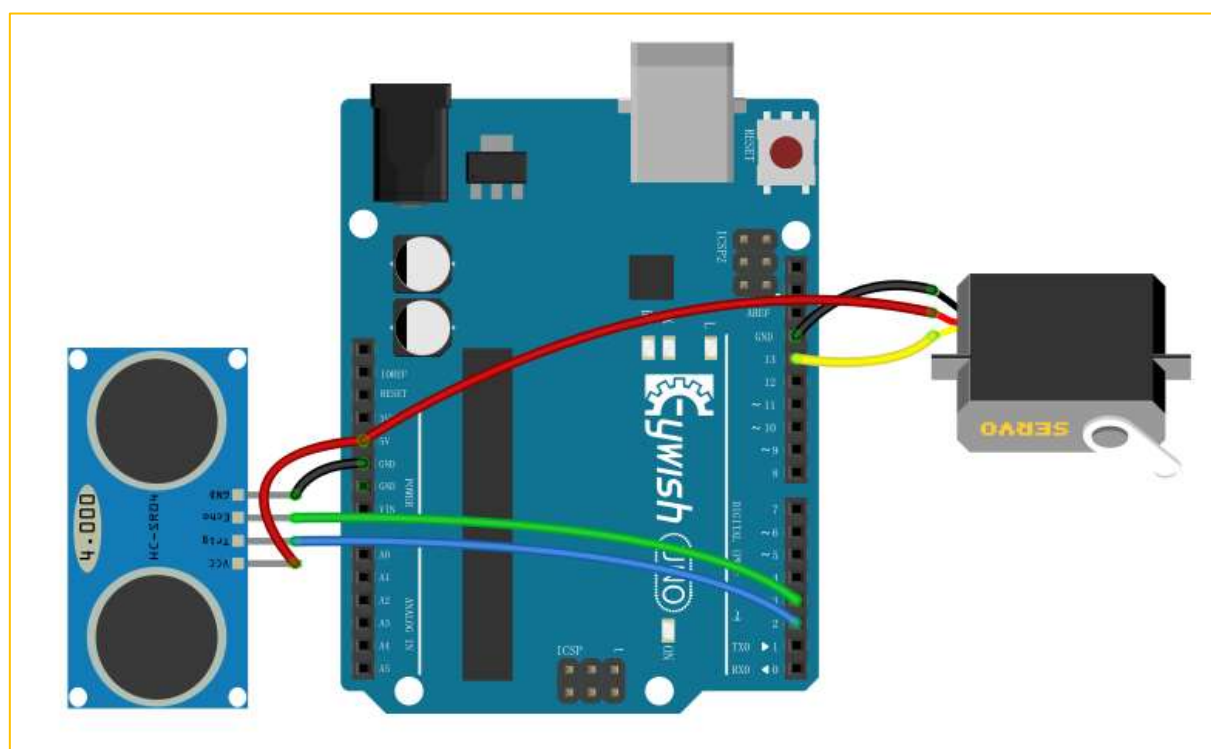

Figure .3.2.32 Wiring of the Steering Gear and Ultrasonic Module
2. Connecting the steering gear and ultrasonic module to the Arduino motherboard as shown in Fig.3.2.32. (you can choose other IO ports according to your own ideas).